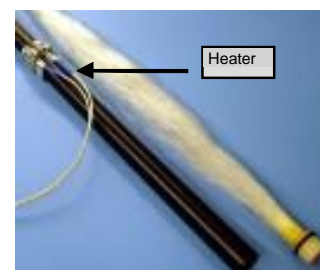

Figure 15
1. Insert a membrane element into the **heated** shell tube and install o-rings (item 8) into the grooves on each header (See Figure 15). The membrane element should now be constrained to the shell by the o-rings.